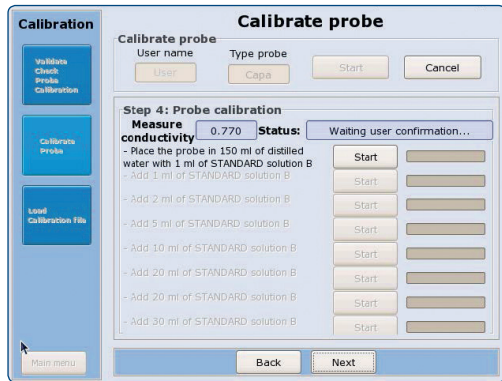

Figure 4: Incyte Sensor Calibration.
12. Pour 150 mL deionized water in a clean beaker. In the following steps 1 to 30 mL of Solution B is added gradually to the deionized water. Press start (Figure 4).